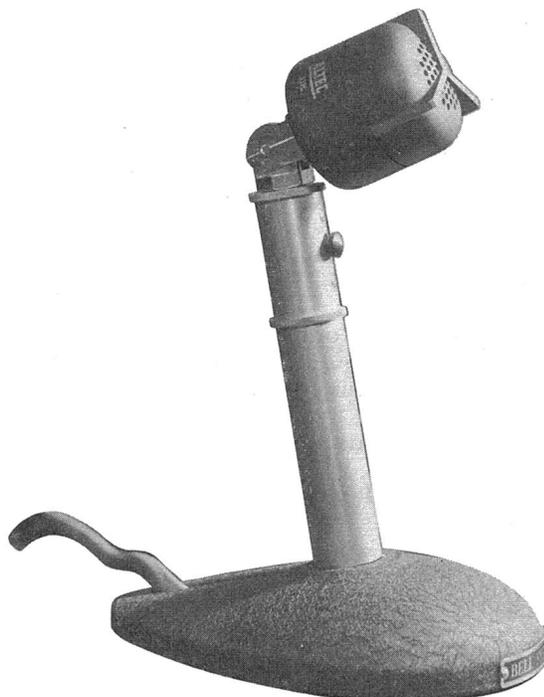

Figure 4 - Separate Pedestal or Desk Stand Mounting GB-1060A
3.10 The separate microphone may be mounted in several different ways. These mountings are shown in Figures 4, 5, 6, and 7.